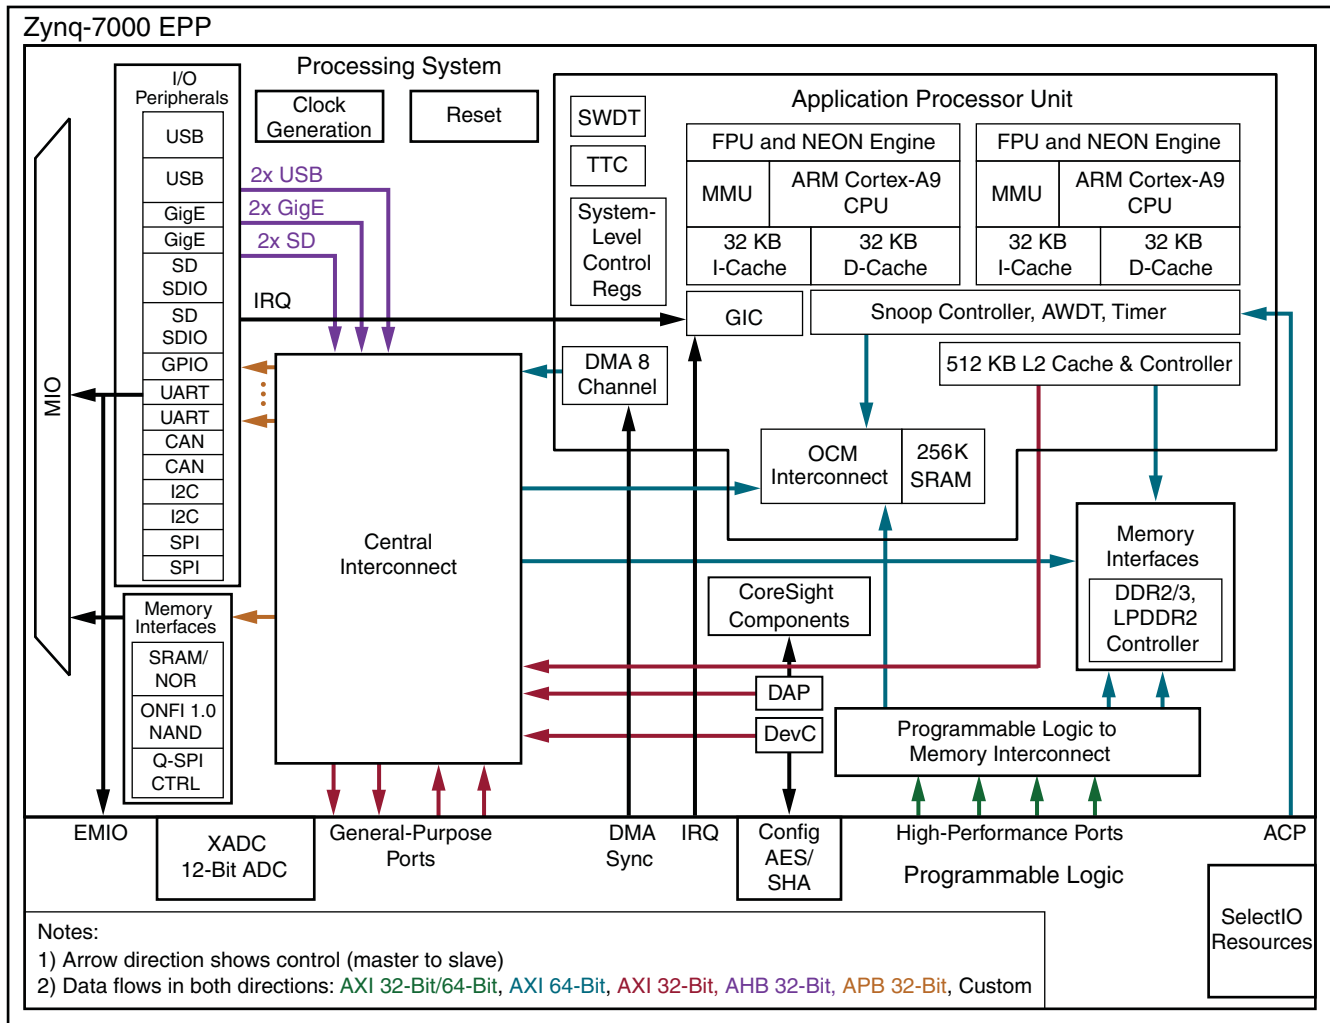

Figure 3-1: Zynq-7000 EPP Processor System High-Level Diagram
Figure 3-1, page 20 shows the overall layout of the Zynq-7000 EPP Processor System (PS) from the boot perspective.